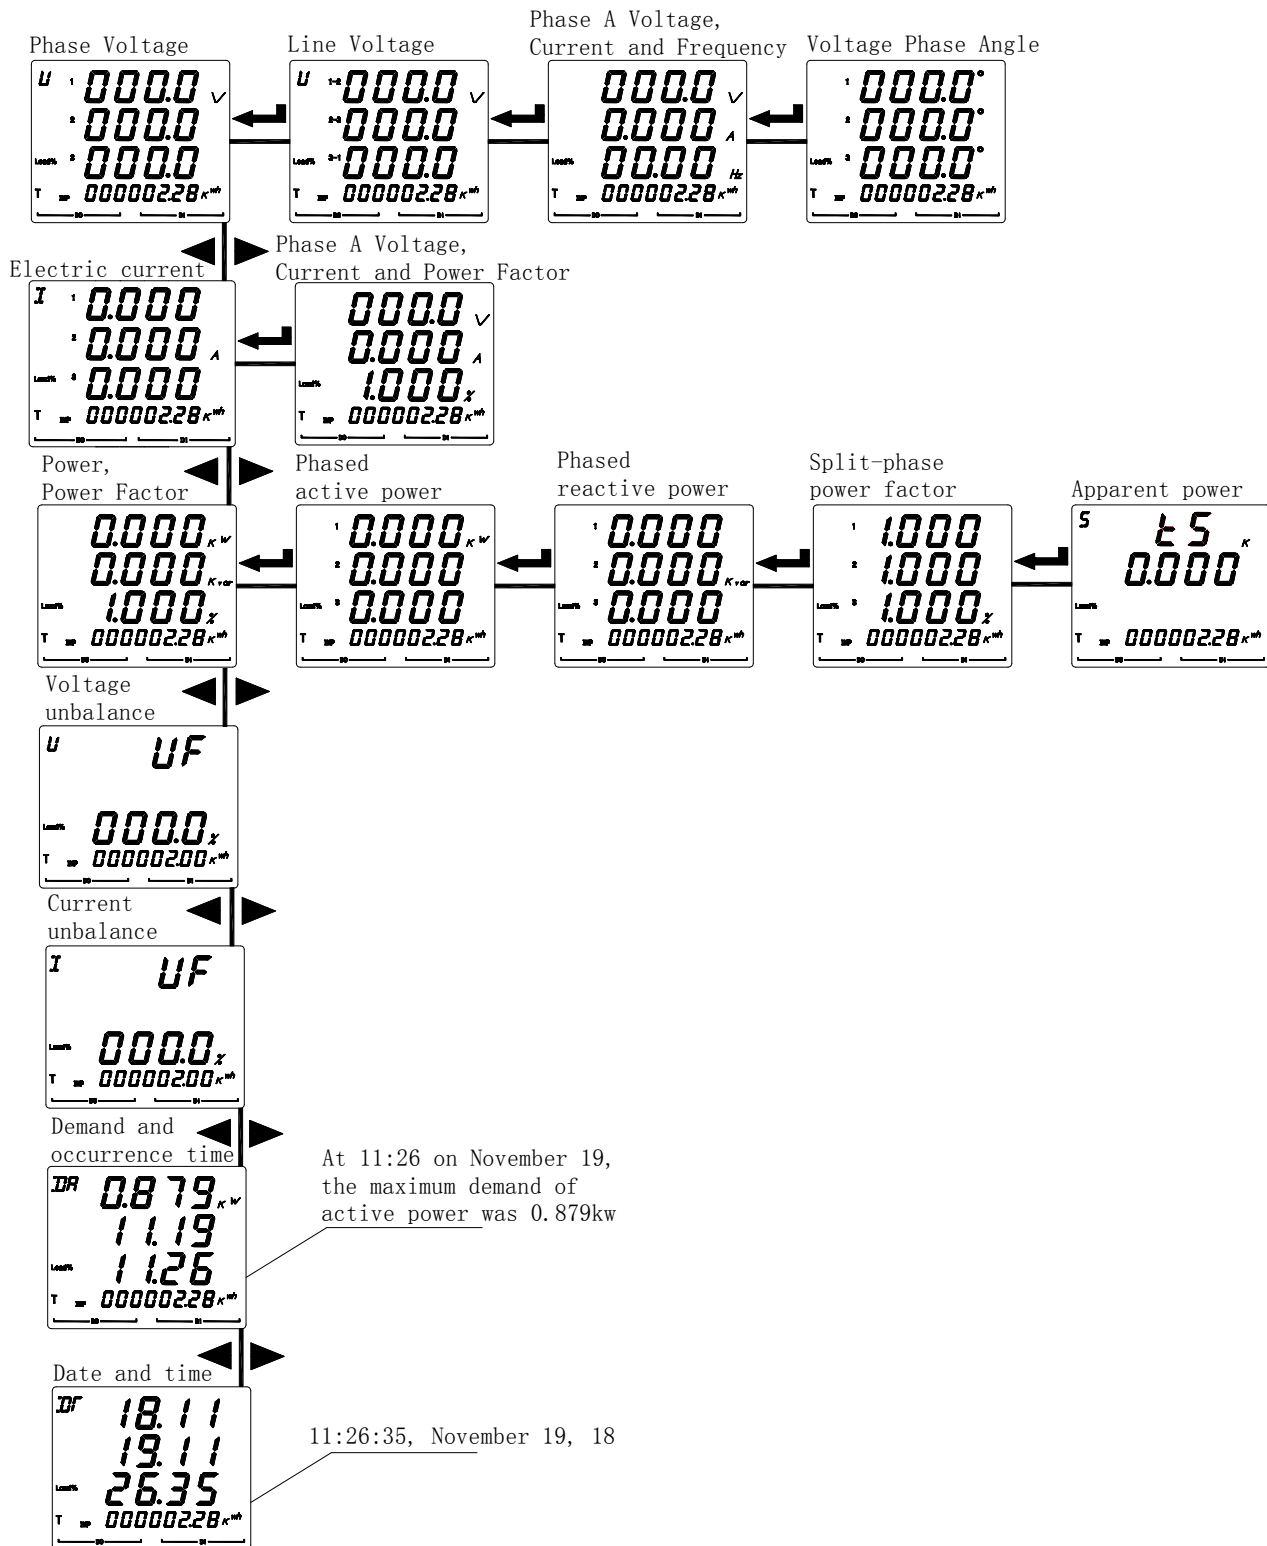

Figure 18
5.2.4 View the power parameters of the DEMP-AC3-DXX-E as shown in Figure 18,19.